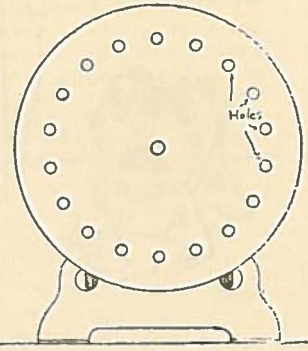

Fig. 19
(1) Punch a ring of evenly spaced holes around the edge of a disk 3 inches in diameter with a sharp-pointed nail and make a hole in the center of it, as shown at A in Fig. 19, and mount it on the shaft of your motor. Take a rubber tube $\frac{1}{4}$ inch in diameter and 1 foot long, make a mouth-piece of cardboard and fix the small end of it to one end of the tube. Now run your motor and then blow with the mouthpiece, when the disk will give forth a musical note. (2) Punch a ring of unevenly spaced holes around the edge of the disk, rotate it, and blow into the tube as before, when it will give forth a curious noise.